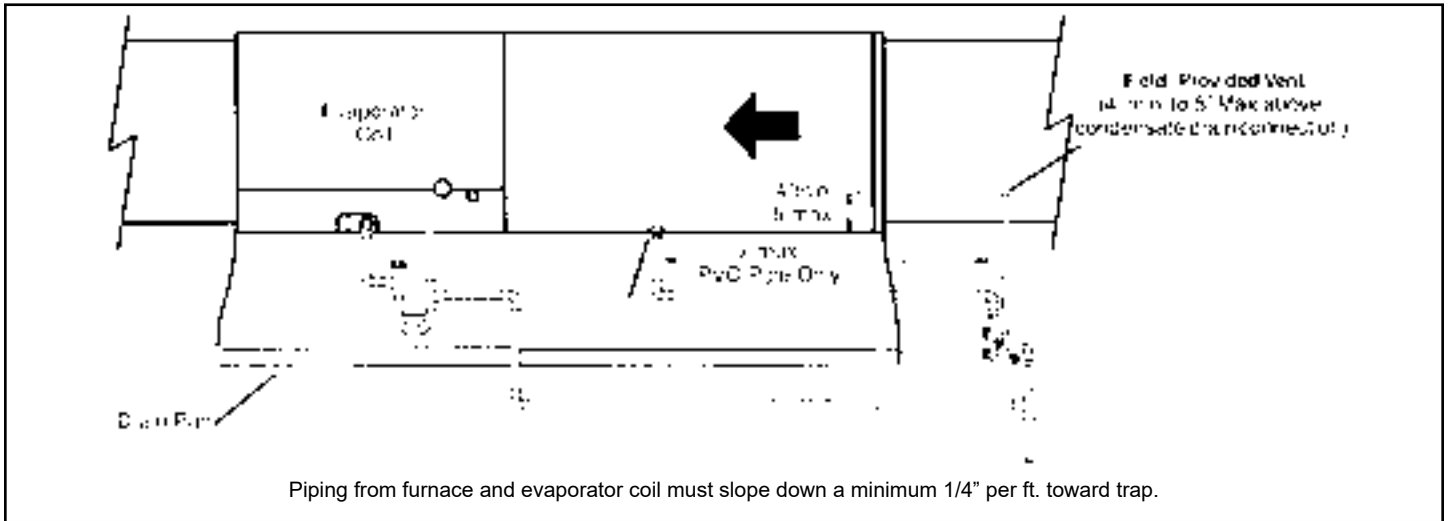

Figure 50. Evaporator Coil Using a Common Drain
5. Figure 46 and Figure 47 show the furnace and evaporator coil using a separate drain. If necessary the condensate line from the furnace and evaporator coil can drain together. See Figure 48 through Figure 50.
Horizontal furnace (Figure 47 and Figure 50) - In horizontal furnace applications the field provided vent must be a minimum 4" to a maximum 5" length above the condensate drain outlet connection. Any length